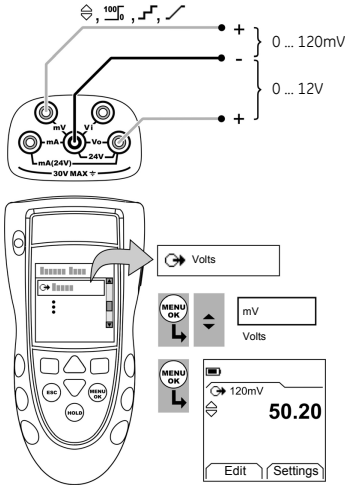

Figure 2: Example configuration - To supply mV or Volts
1. Connect the instrument (Figure 2) and, if necessary, adjust the *Set Up* (Table 1).